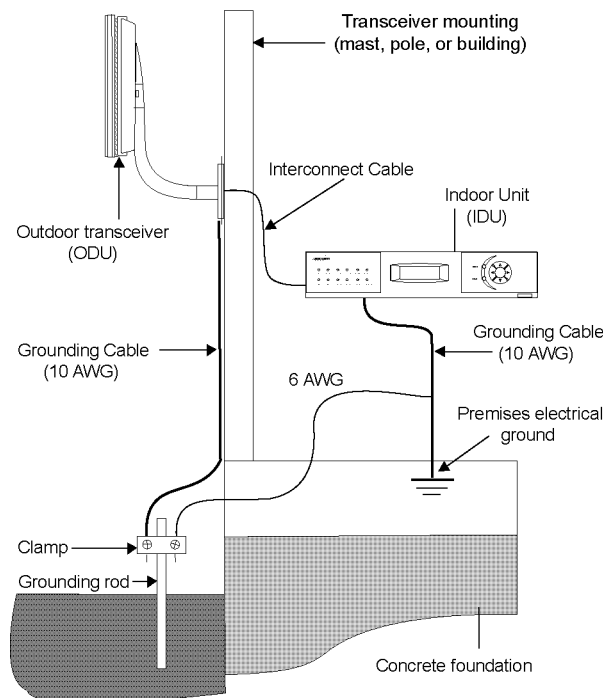

Figure 3-13. Ground Connections to ODU
1. Grounding all the ODUs as shown in Figure 3-13.
3. Attach a grounding clamp to the grounding rod. You will use this clamp to attach grounding wires for both the ODU and indoor junction box, reference Figure 3-13.